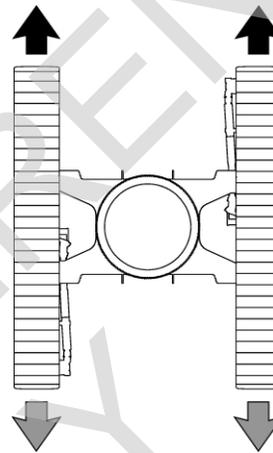

Figure 3-27. Travel Straight
8. To TRAVEL STRAIGHT (Figure 3-27), move both of the crawler handles the same amount in the desired direction from the neutral position.